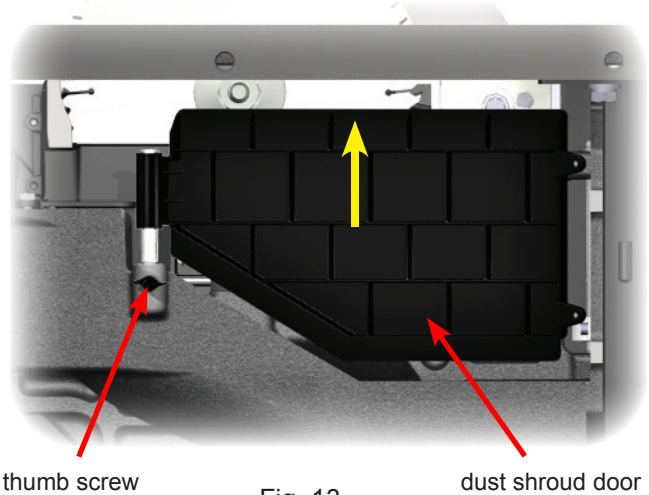

Fig. 13
**Note:** some users may find it easier to adjust the brake position by opening the motor cover and removing the dust shroud door to see the blade and brake cartridge more clearly. To remove the dust shroud door, loosen the thumb screw and lift the door upward until the pivot pin in the door clears the pivot hole in the cast iron trunnion brace (see Fig. 13).